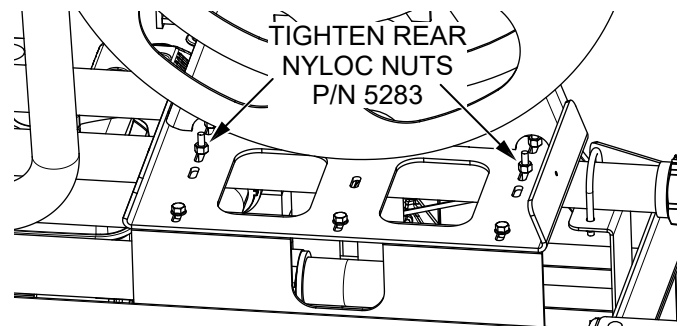

Figure 8. Tighten Rear Muffler Clamp Nuts
- c. Using a 1/2" wrench or socket, fully tighten the rear nyloc nut on each muffler clamp (Figure 8). This will further tighten the front nuts as well.